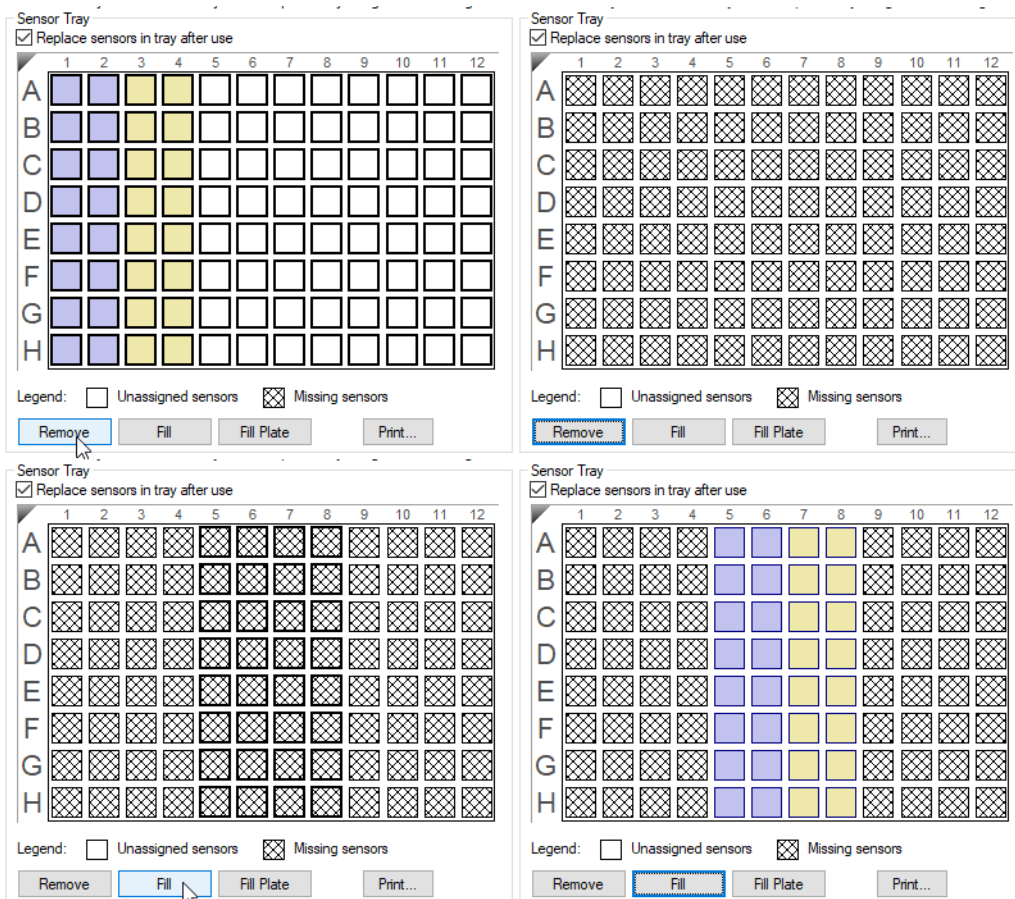

Figure 10-55: Changing Biosensor Location (Method 2)
1. In the **Sensor Tray Map**, select all of the columns and click **Remove** (Figure 10-55 top left). Or, right-click the selection and select **Remove**. All columns will be shown as **Missing** (Figure 10-55 top right).
2. Select the column(s) to use and click **Fill**. Or, right-click the selection and select **Fill** (Figure 10-55 bottom left). The software fills the selected columns in the tray (Figure 10-55 bottom right).